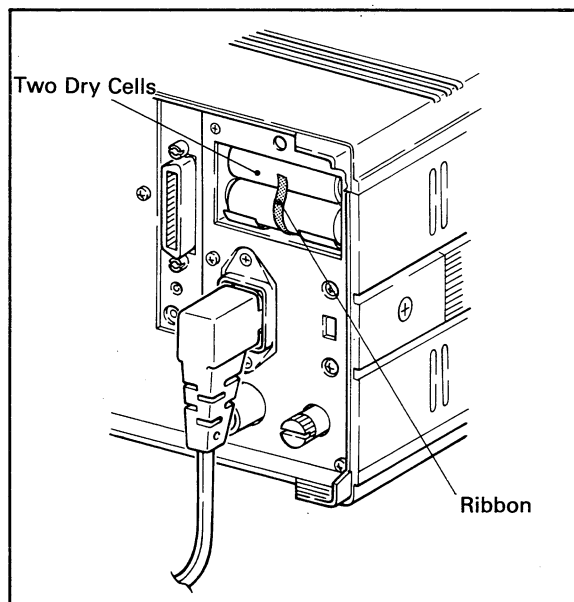

Figure 2-4.
4) As depicted in Figure 2-4, fold back the excess of ribbon upward, put the cover in place and push the knob to lock.